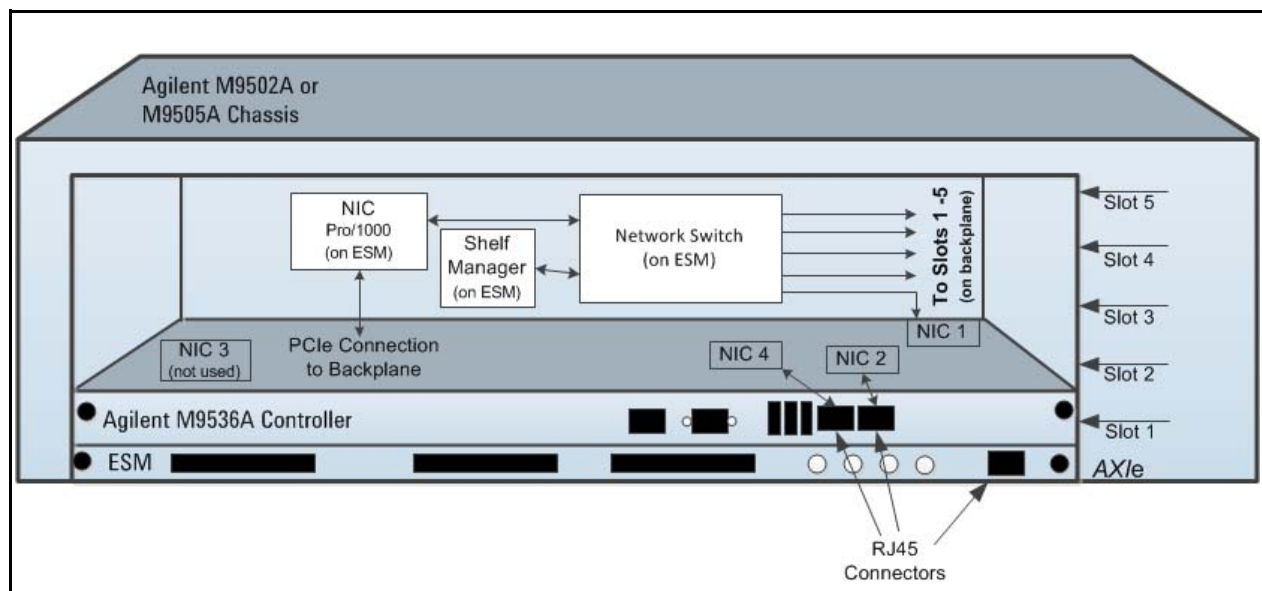
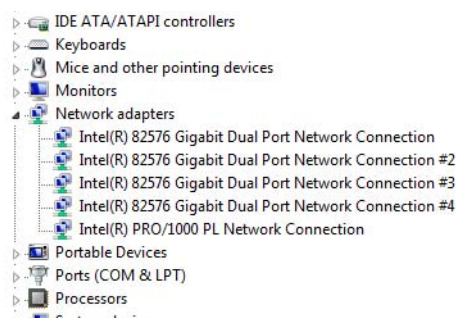

Figure 4 NIC ports reported for the M9536A (NIC 3 is not used)
Figure 5 Windows Device Manager showing Network Connections
If you installed the Agilent M9536A controller in an Agilent AXIe chassis (such as the M9502A or M9505A), there are a total of three LAN ports accessible on the front panels -- two on the M9536A controller and one on the Embedded System Module (ESM). Windows Device Manager shows a total of five (5) individual Network Interface Cards (NICs); one is not used and one connects to the chassis backplane. Refer to Figure 4 and Figure 5 below.
NIC numbers correspond to the numbering in Figure 4 above. Note that NIC 3 is not used. NIC numbering on your M9536A may be different.